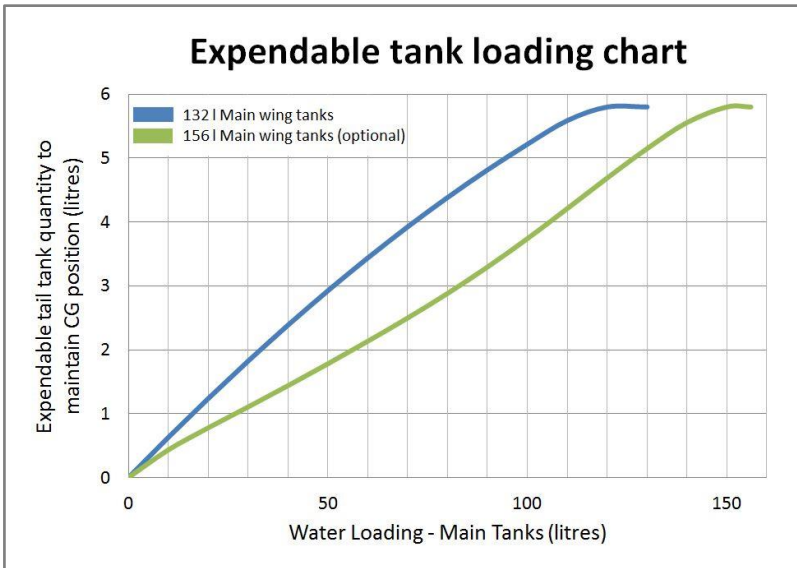

Figure 4-4
Figure 4-4 indicates the expendable water quantity required to balance the water in the main inboard wing tanks.
1. Determine the quantity of water ballast to be carried. The quantity of water ballast in the tail is calculated using the graph in Figure 4-4.